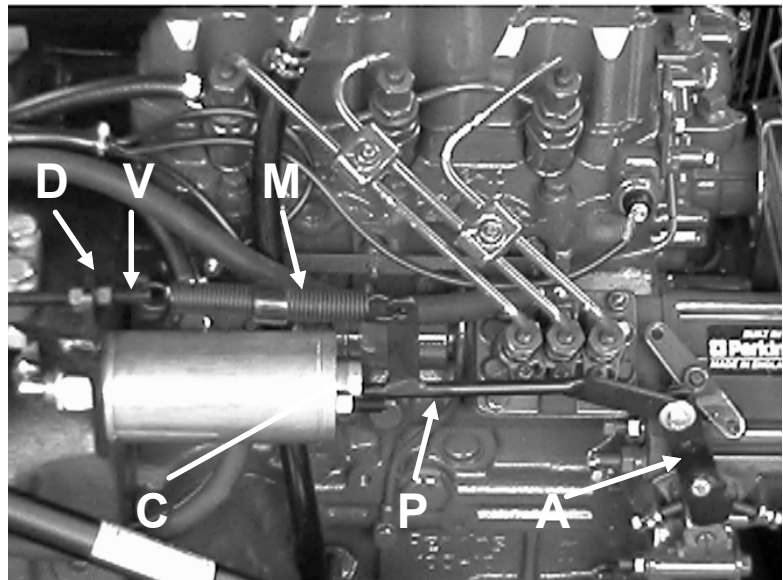

FIG.11
- 4) Ensure that the motor has been completely accelerated, proceeding as follows, with the aid of fig.11: